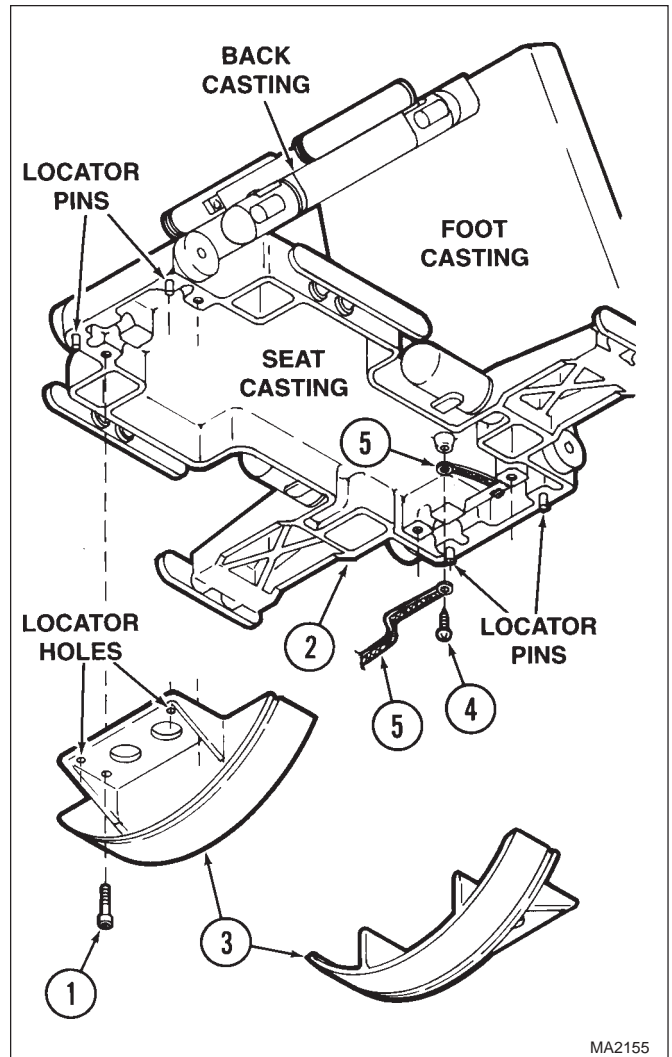
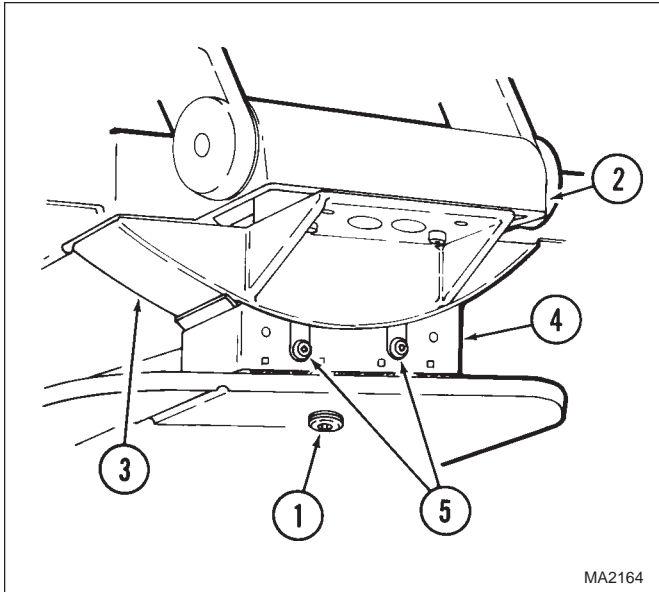

Figure 4-39. Table Top Installation
Figure 4-40. Backlash Adjustment
- (28) With the help of an assistant, position the table top (2, Figure 4-39) on two lateral tilt blocks (3).
- (29) While an assistant slightly raises the foot end of the table top (2), install two ground wires (5) on seat casting of table top and secure with screw (4).
- (30) With the help of an assistant, insert four locator pins of seat casting in four locator holes of lateral tilt blocks (3).
- (31) Secure seat casting of table top (2) to two lateral tilt blocks (3) with four screws (1).
- (32) Tighten two setscrews (1, Figure 4-40) until they start to become harder to turn.
- (33) Lift up on one end of table top (2). If the lateral tilt block (3) pulls away from the wheel housing (4), even slightly, some backlash between the gears still remain.